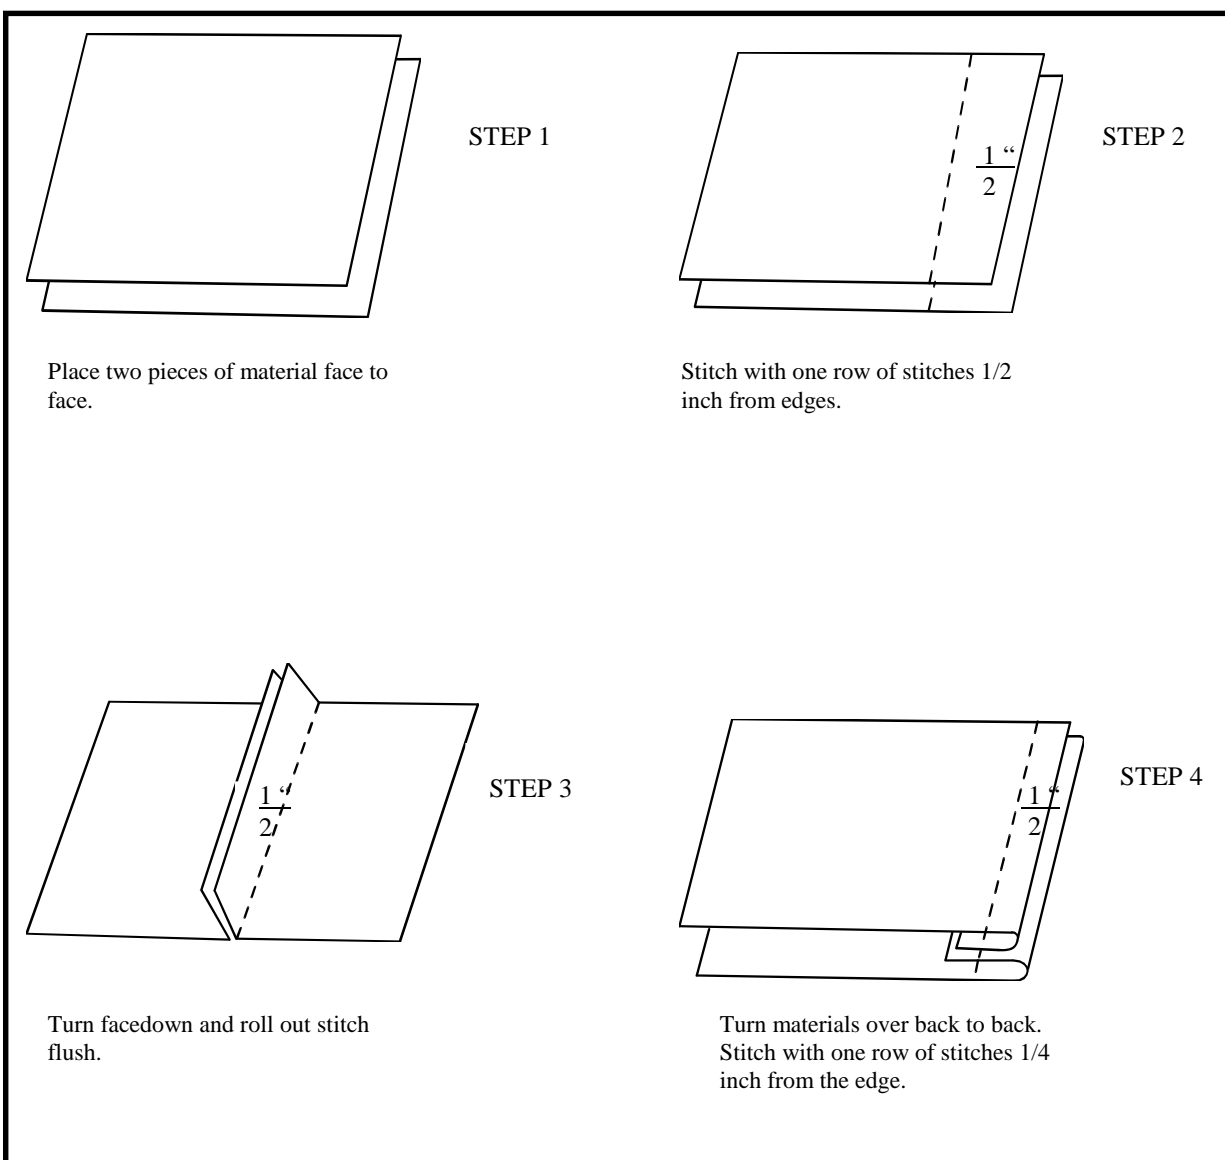

Figure 3-14. Seam type 6
g. Seam Type 6. Seam type 6 (Figure 3-14) is a simple seam topstitched to enclose the raw edges. It is used to finish the edge on cuffs, collars, and pocket flaps. This seam is also used to sew welts on side pockets. To make seam type 6--
- (1) Cut an 8- by 8-inches piece of material into two pieces 4 inches by 8 inches.
- (2) Place the two pieces squarely over each other, and face to face.
- (3) Mark the top piece of material 1/2 inch from the right edge (8-inch length ).
- (4) Make certain the marked edges are even.
- (5) Join the two pieces of the material together by sewing with a simple seam. Tack the stitch lines at both ends with a 1-inch tack. (no less than 7/8 inch, or no more than 1 1/8 inches).
- (6) Fold the bottom piece of the material to the right and press the seams open with an iron.
- (7) Fold the right material over the left piece of material. (At this point, the simple seam is at the operator's right and the top material is face up).
- (8) Mark the top material 1/4 inch from the right edge (this is where the two materials are joined with a simple seam) across the length of material.
- (9) Sew a row of stitches following the mark 1/4 inch from the right edge of both pieces of the material. Make sure the stitching is straight and evenly spaced 1/4 inch from the edge).
- (10) Make sure each seam line has a 1-inch tack at both ends. (no less than 7/8 inch, no more than 1 1/8 inches).